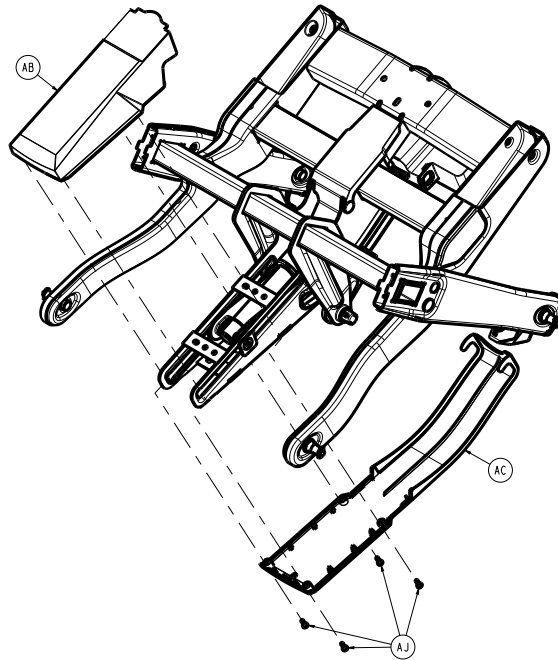

Figure 46 – Removing the lift covers
4. Using a T20 Torx driver, remove the four screws (AJ) that secure the lift arm bottom cover (AC) and lift arm top cover (AB) together (Figure 46). Remove and save the covers. Save the screws.